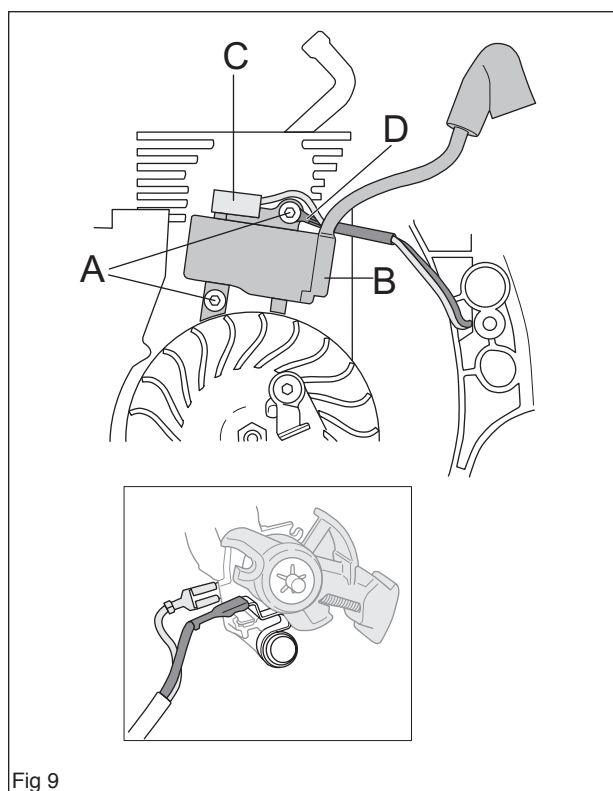

Fig 9
If replacing the ignition module (B), loosen the cable lug (C) and screw (A) and unscrew it. The ignition module can be left in place if you are simply removing the flywheel. (see figure 9)
When replacing the cables, they are fitted on the stop switch. as shown in figure. (see figure 9)